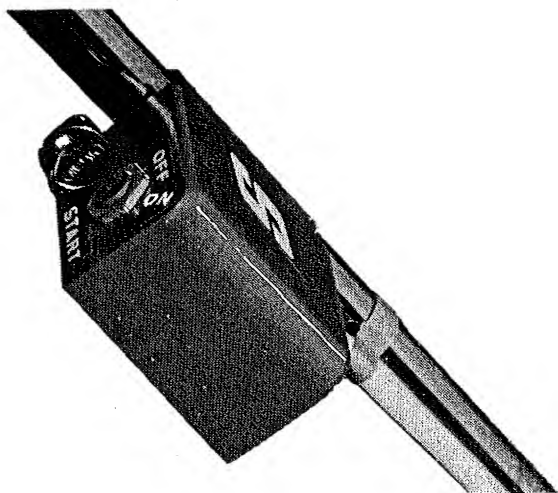

FIGURE 1
**1. Ignition Switch (Electric Start Models Only):** When turned clockwise to the first position, the ignition is turned on. Turn past this position to actuate the starter. Release the key as soon as the engine starts. Return the key to the vertical position to stop the engine. (See Figures 1 & 3).